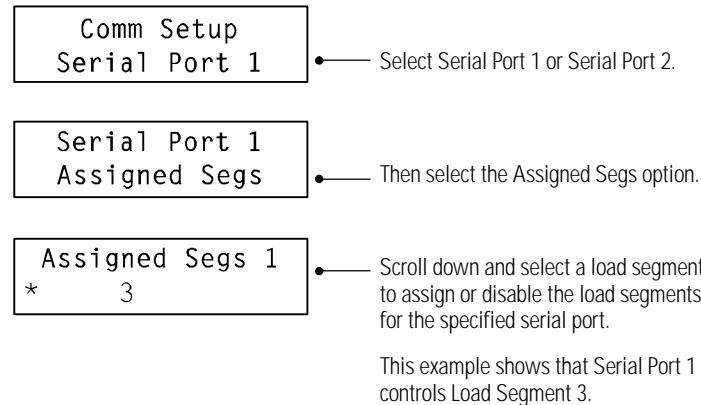

Figure 25. Assigning Load Segments
- **Assigned Segs** - select the individual load segment to assign or disable that segment for the selected serial port (see Figure 25).